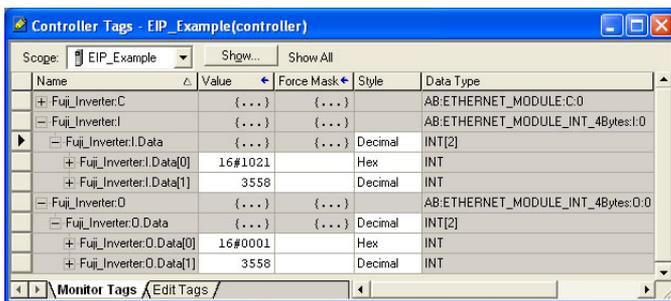

Figure 86: Controller Tags for I/O Access
- 8) By double-clicking “Controller Tags” in the project tree, it is possible to view the newly-added tags. Refer to Figure 86. The Fuji\_Inverter:C configuration tag is unused, the Fuji\_Inverter:I tag allows viewing of the input data, and the Fuji\_Inverter:O tag allows modification of the output data. These tags will be synchronized with the inverter at whatever rate was established for the module’s RPI.
We can directly interact with these tags in order to control and monitor the inverter. In Figure 86, for example, we can see that the first 16-bit word of output data (Fuji\_Inverter.O.Data[0]) has been set to a hexadecimal value of 0x0001. Referring back to Figure 37, we can see that the first element of the consumed register configuration references register 1799, which is the inverter's operation command register. A value of 0x0001, therefore, means that the FWD (run forward) bit has been turned ON.